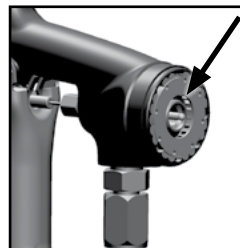

Fig. 6
3. Check baffle plate for wear. If worn replace with new part. (See fig 6)